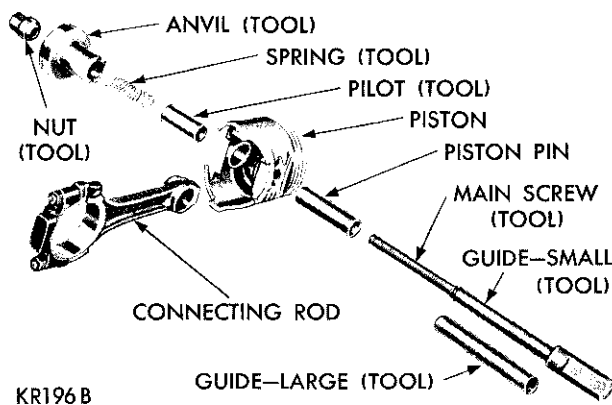

Fig. 40—Tool Arrangement for Installing Piston Pin Using Tool C-3684
(1) Test the piston pin fit in the piston. It should be a sliding fit in the piston at 70 degrees F. Piston pins are supplied in standard sizes only.
(2) Lubricate the piston pin holes in the piston and connecting rod.
(3) Arrange the Tool C-3684 parts for installation of piston pin as shown in Figure 40.
(4) Install the spring inside the pilot and install the spring and pilot in the anvil. Install the piston pin over the main screw.
(5) Place the piston, with "front" up, over the pilot so that the pilot extends through the piston pin hole.
(6) Position the connecting rod over the pilot which extends through the piston pin hole.
(7) Install the main screw and piston pin in the piston, as shown in Figure 40.